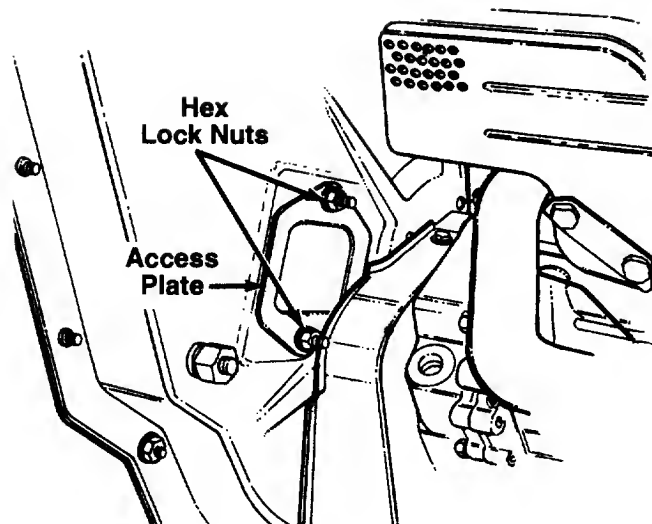

FIGURE 13.
4. Open access plate by removing the two hex lock nuts. See figure 13.